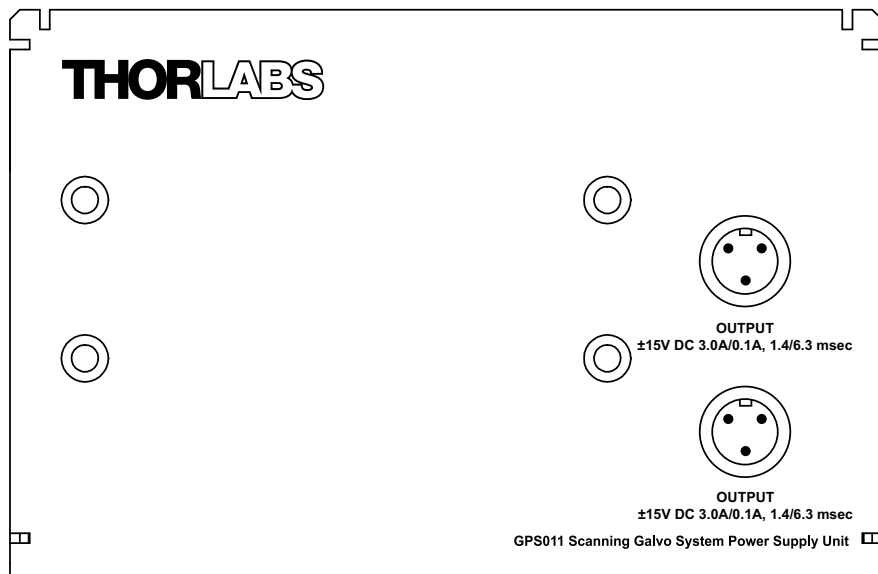

Fig. B.1 Connecting the Power Cable to the PSU
- 2) The circular 3-pin connector on the power output cable and the OUTPUT socket on the PSU are fitted with alignment keyways to ensure connection in the correct orientation. Check for correct orientation of the alignment keyways, then make connections as shown in Fig. B.1.